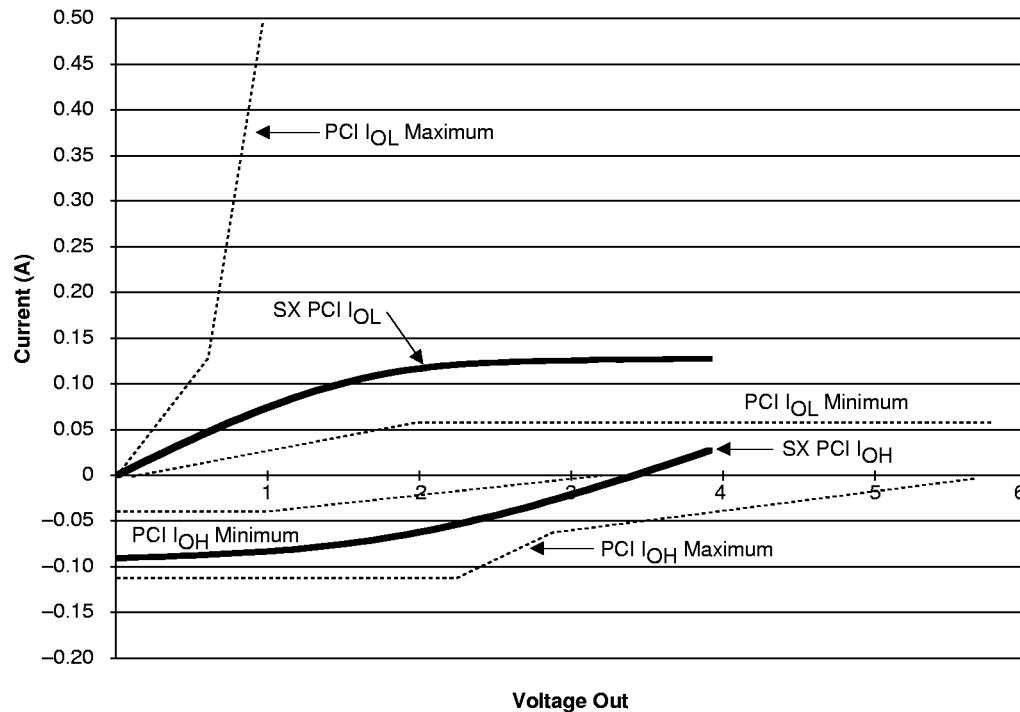

Figure 10 • 3.3VPCI Curve for SX-A Family
1. Refer to the *V/I* curves in Figure 10 on page 17. Switching current characteristics for REQ# and GNT# are permitted to be one half of that specified here; i.e., half size output drivers may be used on these signals. This specification does not apply to CLK and RST# which are system outputs. "Switching Current High" specification are not relevant to SERR#, INTA#, INTB#, INTC#, and INTD# which are open drain outputs.
2. Maximum current requirements must be met as drivers pull beyond the last step voltage. Equations defining these maximums (C and D) are provided with the respective diagrams in Figure 10 on page 17. The equation defined maxima should be met by design. In order to facilitate component testing, a maximum current test point is defined for each side of the output driver.
Figure 10 shows the 3.3VPCI VI curve and the minimum and maximum PCI drive characteristics of the SX-A family.